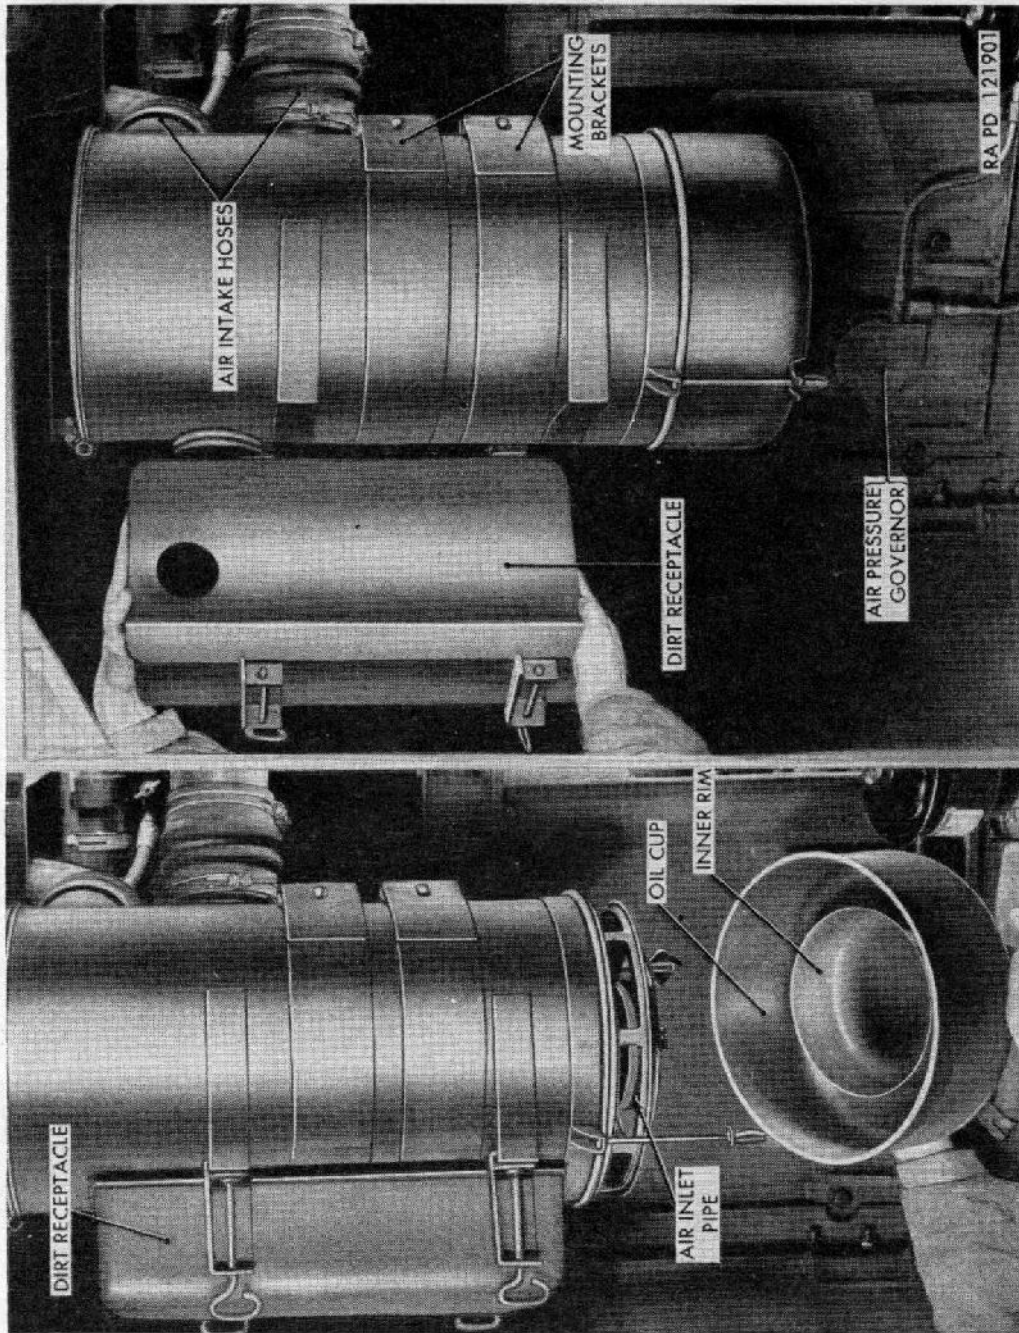
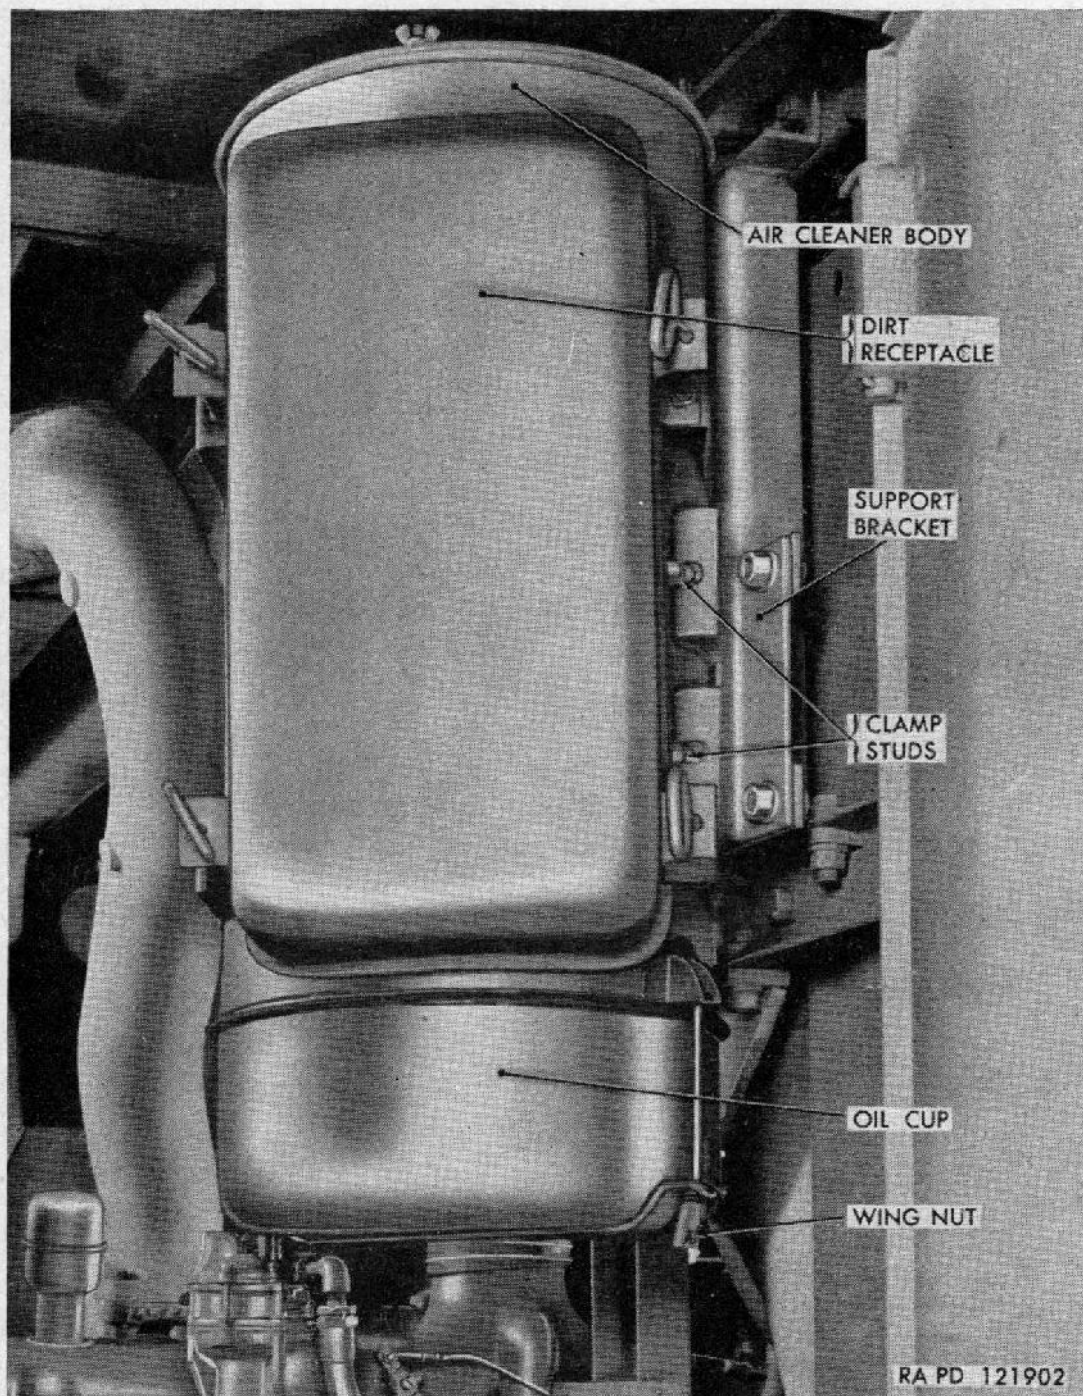

Figure 53. Servicing air cleaner.
Figure 54. Air cleaner installed.
- (2) *Air-intake system.* The air-intake system for each engine consists of two air intake pipes with cover and screen, two oil bath air cleaners (fig. 54), and connecting hoses (fig. 61). The air is drawn from the atmosphere through the air pipes, then through the oil bath air cleaners, where it passes through oil filled mats. The dust and foreign material drawn in with the air is removed before the air passes through the connecting hose to the carburetor. Fuel from the carburetors mix with the air as it is drawn through the carburetors, forming a combustible mixture which is drawn into the cylinders of the engine through the intake manifold and intake valves.
- (9) *Air cleaners.* The air cleaners, mounted at rear sides of the radiators (fig. 54), filter all dust from the air before it is delivered to the engines. Air enters the top of each cleaner through the intake tube on the roof of the cab (fig. 3). The air is given a swirling motion and most of the dust in the air is thrown to the outside and deposited in a large dirt receptacle attached to side of cleaner body (fig. 54). The air is then drawn through the screen mats in the cleaner body. An oil cup, suspended from the lower end of the air cleaner, is filled with oil. As the air is drawn through the cleaner, a portion of this oil is whipped up into the screen mats in the main body of the cleaner. The dust in the air collects on these oily screen mats as the air passes through; as a result, only clean air reaches the engine. The oil dripping back into the cup from the screen mats carries the dirt with it and deposits it in the cup.
a. Removal. Replace a damaged air cleaner immediately. Each air cleaner assembly is supported on a bracket and held by two clamp bands around the air cleaner body (fig. 53). Loosen hose clamps and disconnect air hoses from cleaner body (fig. 36). Unscrew two clamp studs from each of the two clamp bands (fig. 54) and remove air cleaner.
b. Cleaning. Loosen wing nuts at bottom of oil cup and remove cup (fig. 54). Pour oil out of cup, wash in dry-cleaning solvent or volatile mineral spirits and replenish with oil according to lubrication order (par. 70). Install oil cup and tighten wing nuts. Turn locking wing bolts counterclockwise and remove dirt receptacle from air cleaner body (fig. 53). Clean dirt receptacle of dirt and dust. Wash receptacle in dry-cleaning solvent or volatile mineral spirits and dry with compressed air. Position dirt receptacle on air cleaner body and tighten locking wing bolts.
c. Installation. Position air cleaner on mounting brackets and install the two clamp studs in the two clamp bands (fig. 54). Connect the air hoses to the air cleaner and tighten hose clamps (fig. 36). Tighten all mounting clamp studs firmly. Close engine compartment doors.